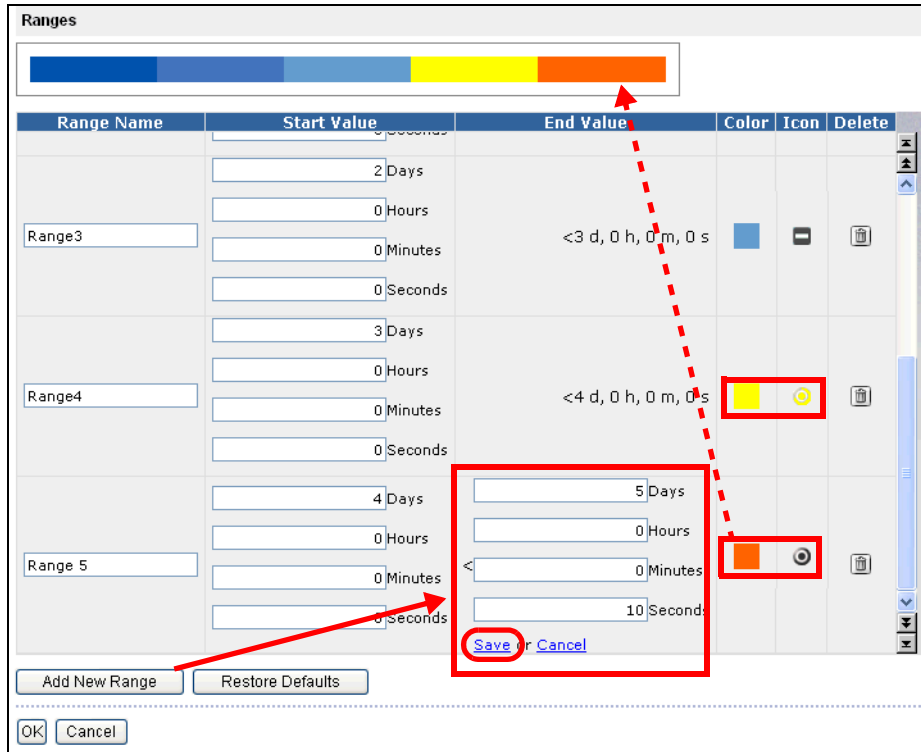

Figure 14-76 KPI range edit and color choice
- ▶ The target (3 days) and the existing four ranges are displayed with their default colors (Figure 14-76).